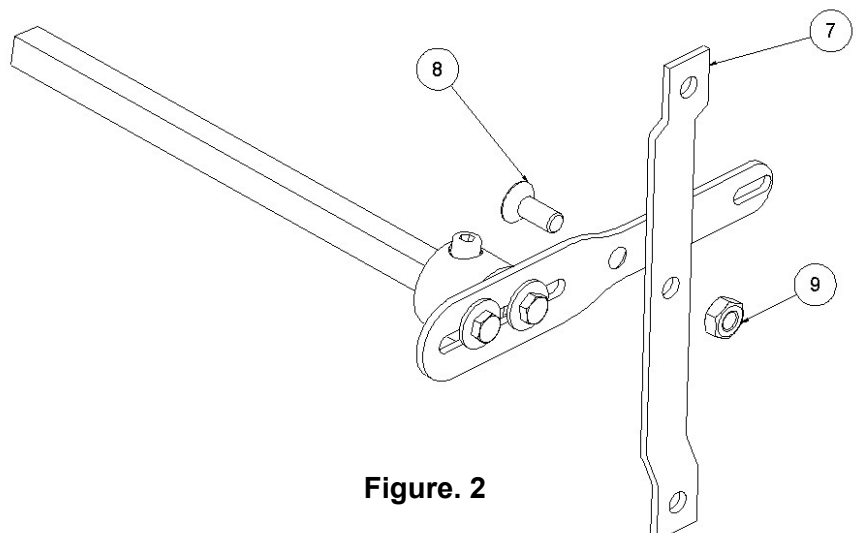

Figure. 2
3. GOVERNOR LINKAGE PLACING: One of the screwed arms must be fixed to the governor linkage (7) through the M10 x 25 DIN 7991 screw (8) and the M10 DIN 985 Autoblock nut (9) -Fig. 2-.